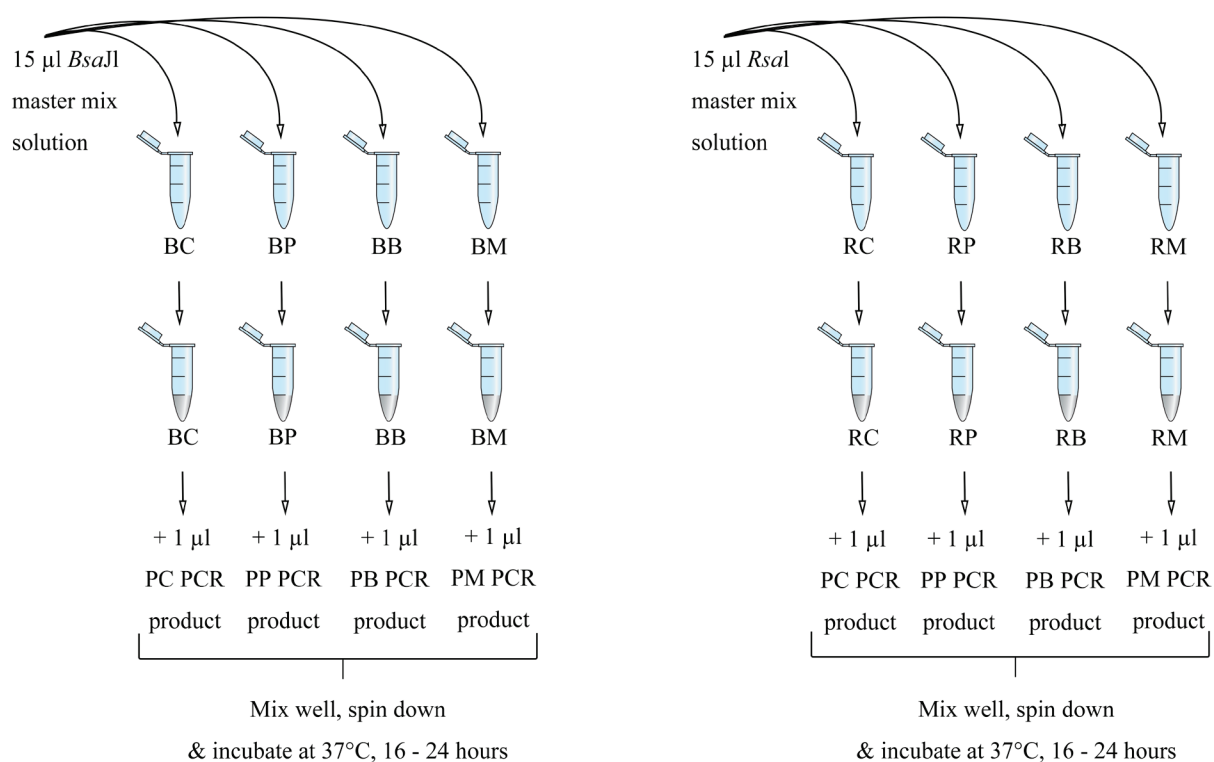

Fig. 7 Flow diagram of Part (3) of the experiment
5. Finger-flick the tubes to mix the content (see Fig. 7).
6. Spin down the solution by the micro-centrifuge (see Fig. 7).
7. Incubate all tubes at 37°C for 16–24 hours in a thermocycler or water bath (see Fig. 7).